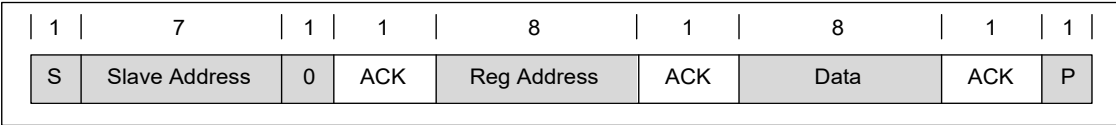

Figure 16. A Single Write Transaction
**WRITE:** If the master wants to write in the register, the third byte can be written directly as shown in Figure 16 for a single write data transfer. After receiving the ACK, master may issue a STOP condition to end the transaction or send the next register data, that will be written to the next address in a slave as multi-write. A STOP is needed after sending the last data.